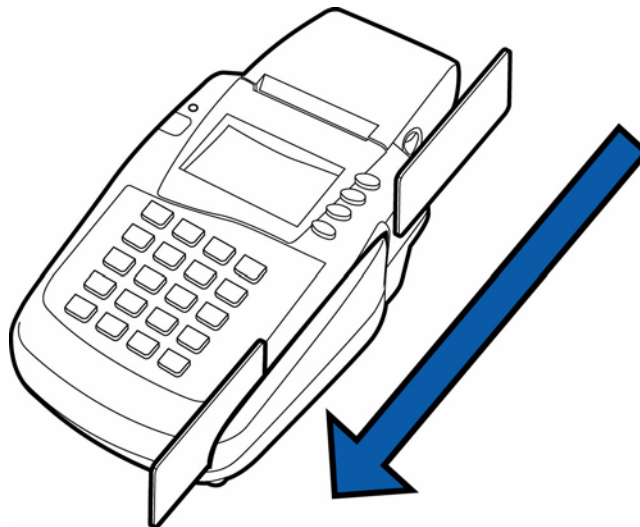

Figure 13 Using the Magnetic Card Reader
- 2 Swipe it through the magnetic card reader (see Figure 13).